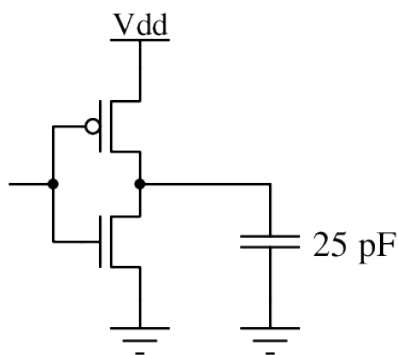

Fig. 1
- (b) A CMOS inverter fabricated in the generic 0.18 μm technology is shown in Fig. 1. The widths of the NMOS and PMOS are 400 nm and 280 nm respectively, and the lengths of the transistors are both 200 nm. There is a capacitive load of 25 pF at its output.